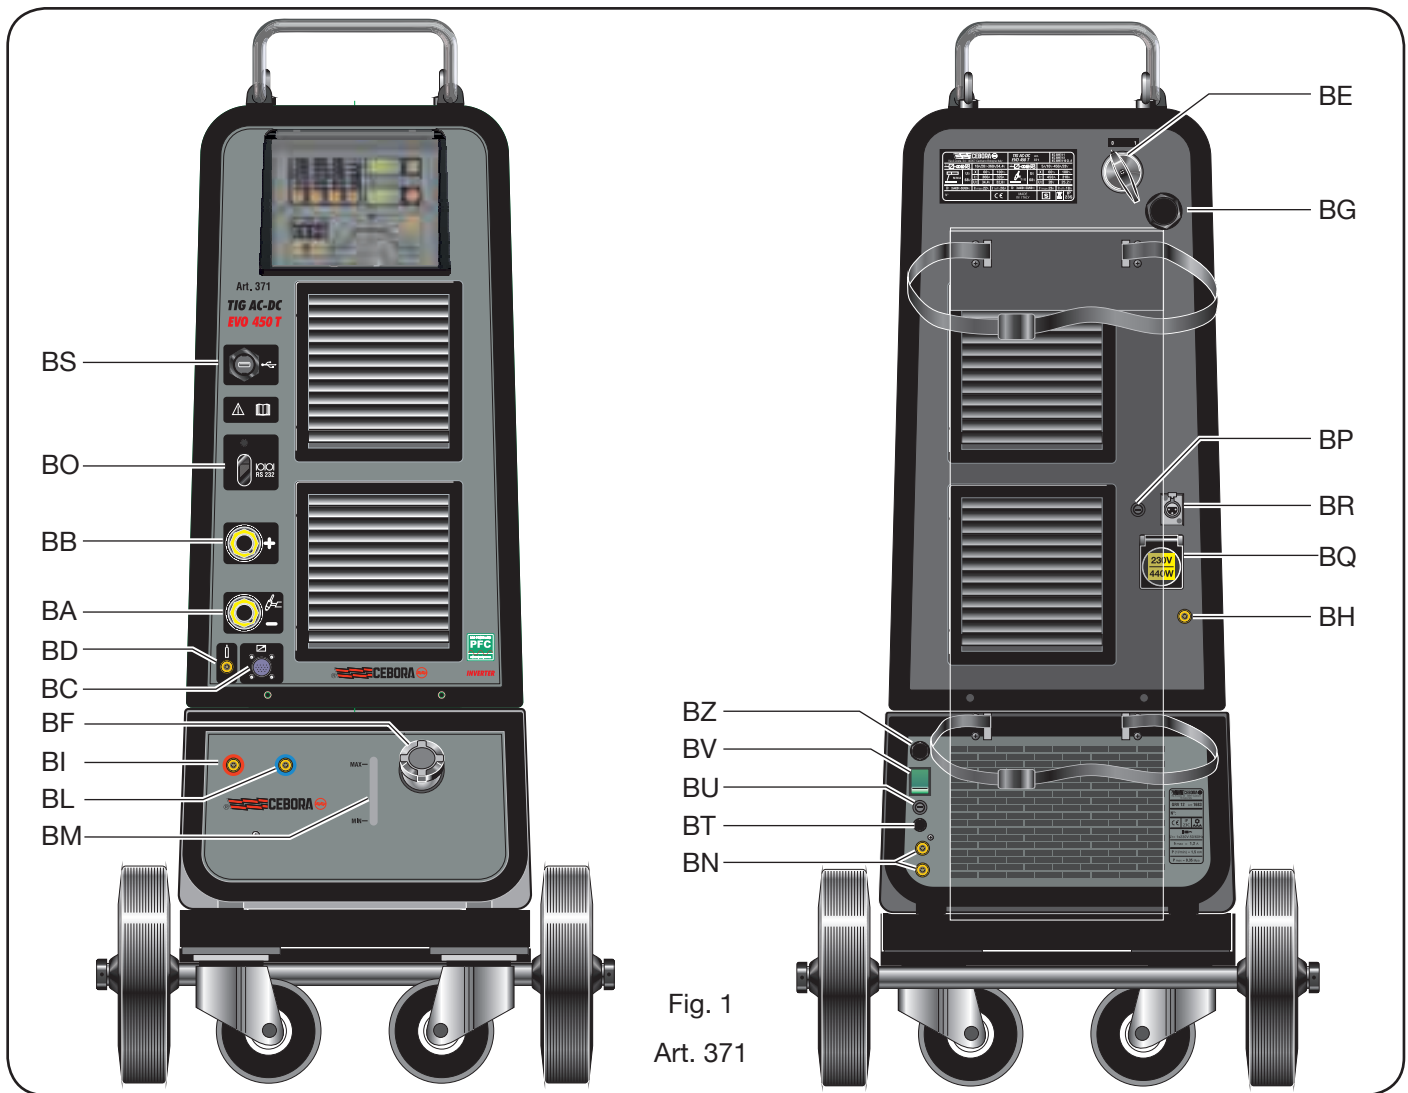

Fig. 1
3.2 DESCRIPTION OF THE EQUIPMENT (Fig.1).